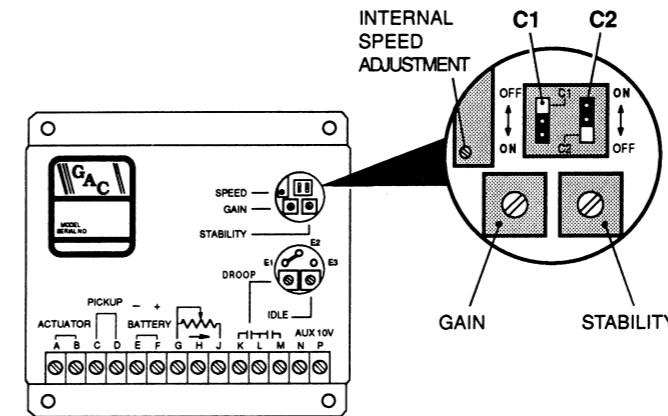

Fig 13. Control Unit
1. Set the switch "C1" (fig. 13) to the "ON" position. **Note!** Move the switch to the "OFF" position if there is fast instability in the system.
3. Set the potentiometers "GAIN" and "STABILITY" (fig. 13) to the centre position.